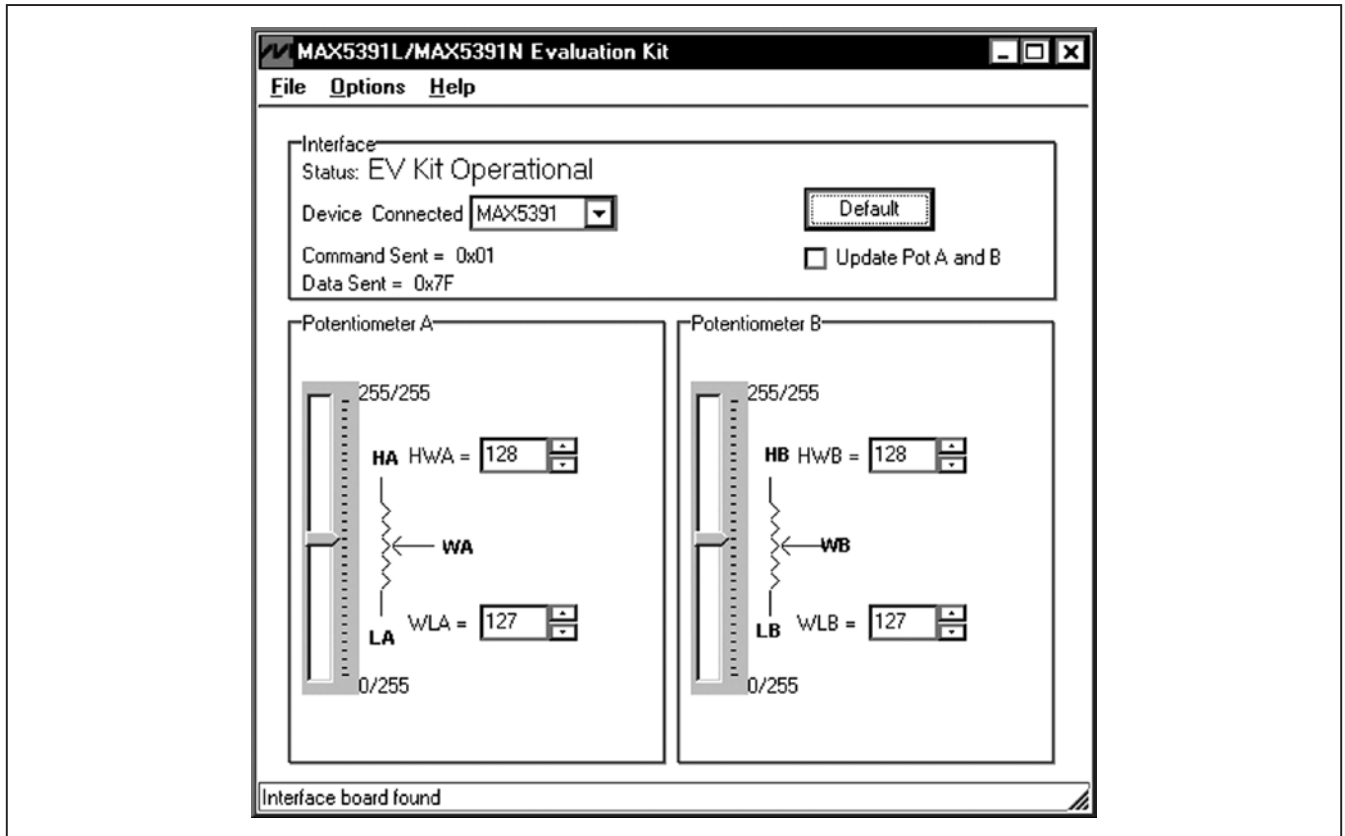
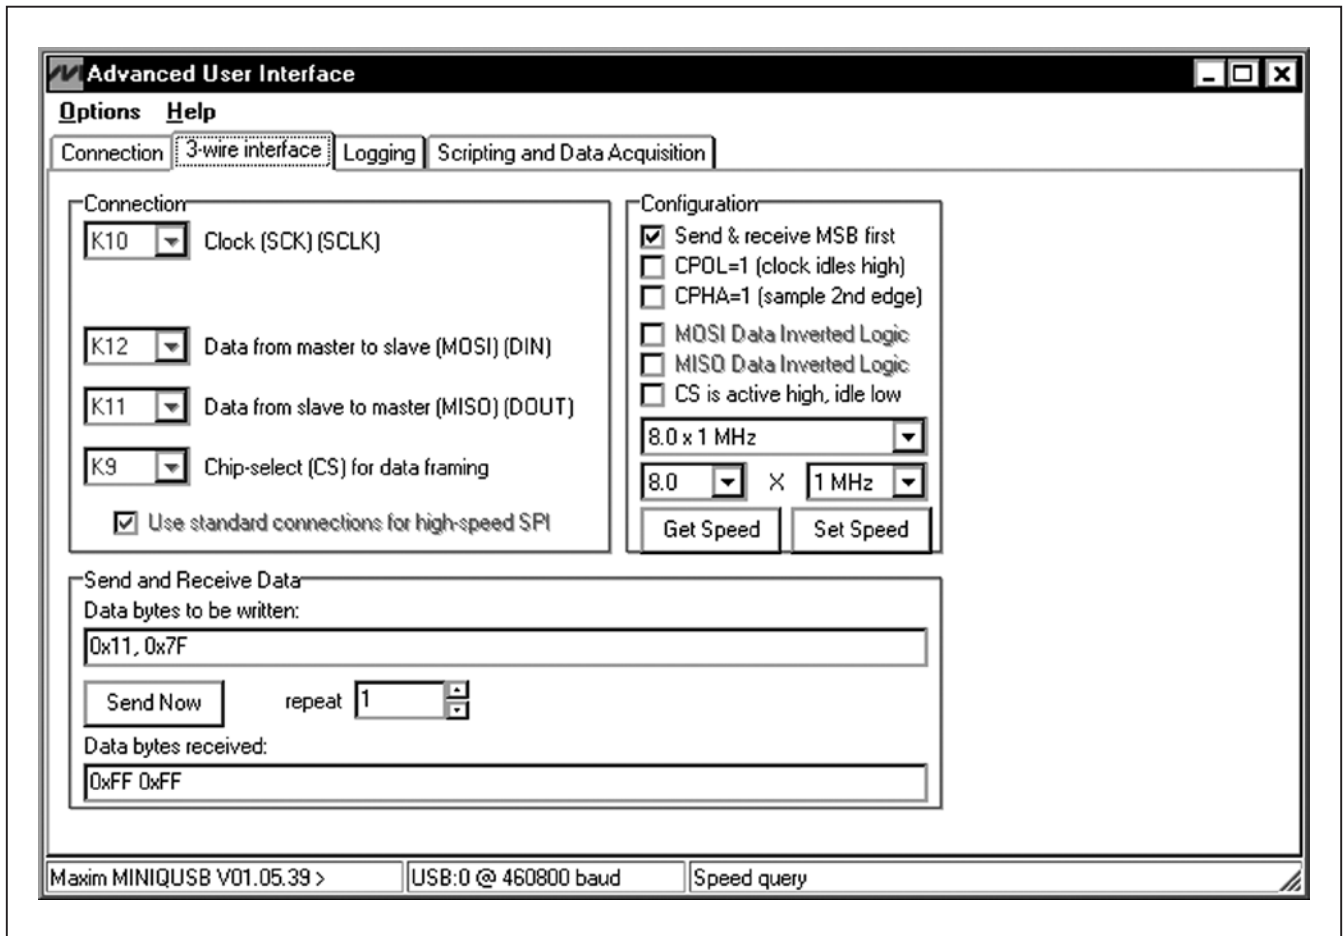

Figure 1. MAX5391L/MAX5391N Evaluation Kit Software Main Window
Figure 3. Simple Low-Level 3-Wire Interface
- 10) Using the **Device Connected** combo box, select MAX5391 from the list and then press the **Default** button. The EV kit software main window appears, as shown in Figure 1.
The EV kit software GUI shown in Figure 1 is a Windows program that provides a convenient means to control the MAX5391L and MAX5391N dual potentiometers. Use the mouse or press the Tab key to navigate through the GUI controls. The correct SPI write operations are generated to update the MAX5391L/MAX5391N internal memory registers when any of these controls are executed.
There are two methods for communicating with the EV kit, through the normal user-interface panel (Figure 1), or through the SPI commands available by selecting the **3-Wire Interface** utility from the main program's **Options | Advanced Users Interface** menu bar. A window is displayed (Figure 3) that allows SPI send/receive data operations.
On the **3-wire interface** tab, the **Connection** group box defines the hardware connections of the interface. For the EV kit, **K10** is selected from the **Clock (SCK)(SCLK)** drop-down list, **K12** from the **Data from master to slave (MOSI)(DIN)** drop-down list, **K11** from the **Data from slave to master (MISO)(DOU)** drop-down list, **K9** from the **Chip-select (CS) for data framing** drop-down list, and the **Use standard connections for high-speed SPI** checkbox is checked (see Figure 3).
The **Configuration** group box allows the user to configure the logic level and data rate. For the EV kit, check the **Send & Receive MSB first** checkbox and verify that the **CPOL=1(clock idles high)** and **CPHA=1(sample 2nd edge)** checkboxes are unchecked (see Figure 3).
Note: The SPI dialog boxes accept numeric data in hexadecimal format. Hexadecimal numbers must be prefixed by \$ or 0x. Figure 3 shows a simple SPI write-byte operation using the included 3-wire interface diagnostics tool. In this example, the software is sending command 0x11 (write to potentiometers A and B) and data 0x7F. The data sequence sets potentiometer A and B wiper positions to 127.